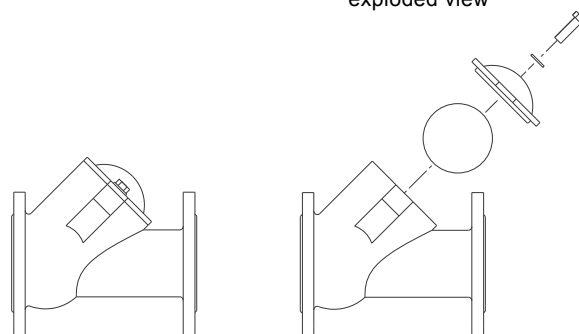

Fig. 33 Non-return valve
1. Close the isolating valves. See fig. 33
3. Remove the two screws on the non-return valve cover. See fig. 33.